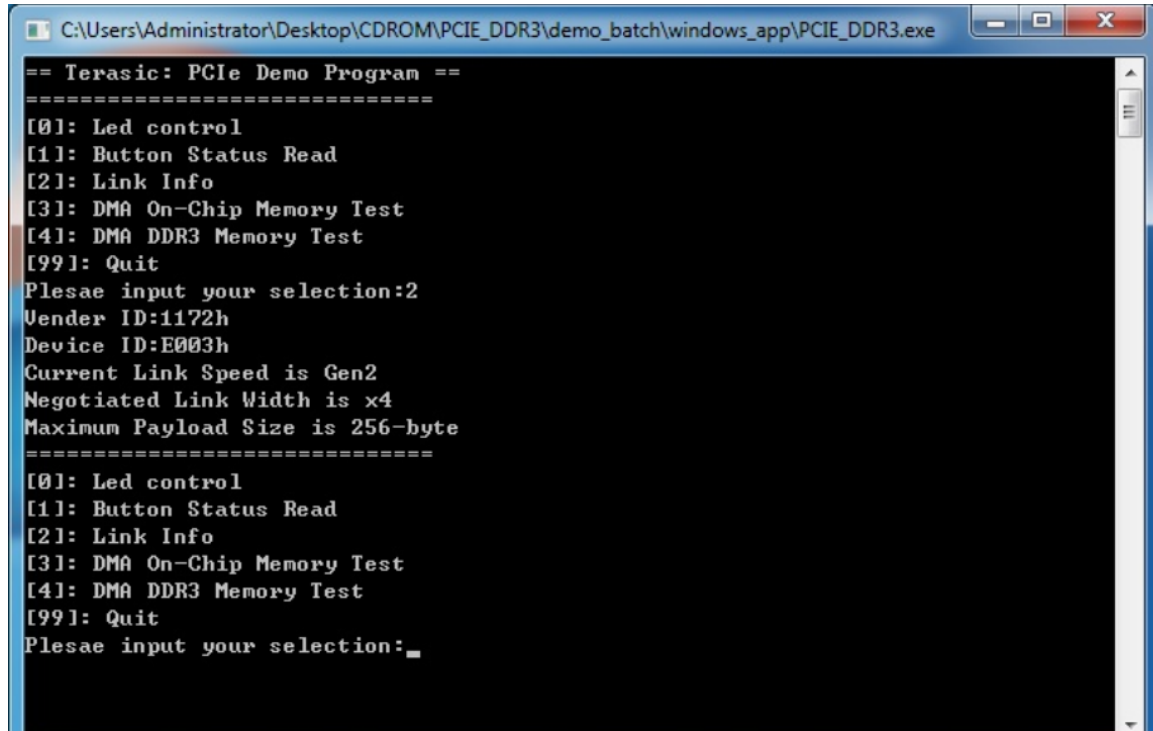

Figure 7-17 Screenshot of Link Info
8. Type 2 followed by the ENTER key to select Link Info item. The PICe link information will be shown as in **Figure 7-17**. Gen2 link speed and x4 link width are expected.